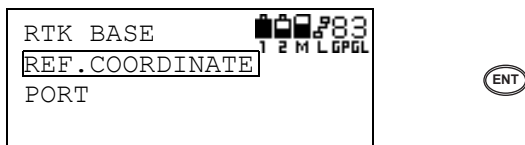

Figure 3-58. Select Reference Coordinate and Press Enter
- From the RTK BASE menu, select REF. COORDINATE and press **ENT** (Figure 3-58).